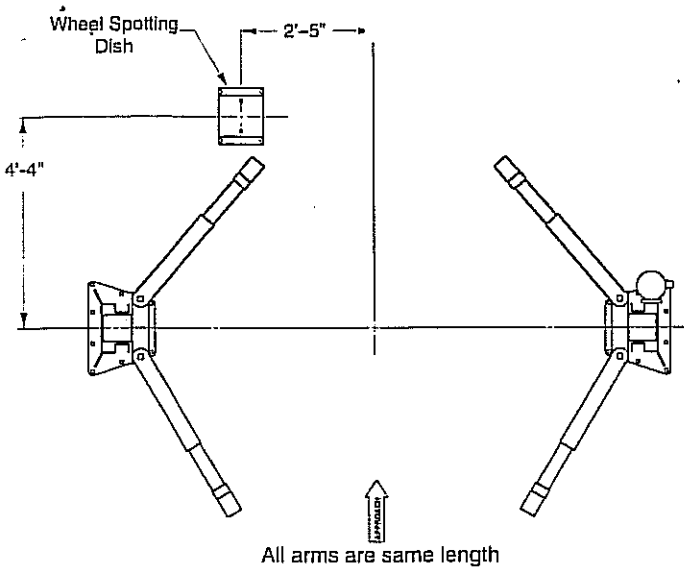

Fig. 12
6. **Wheel Spotting Dish:** Position wheel spotting dish as described in Fig. 12. Drill (2) $\frac{3}{8}$ " holes $2\frac{1}{2}$ " deep in concrete floor using holes in wheel spotting dish as guide. Drive both anchors into concrete to secure dish.